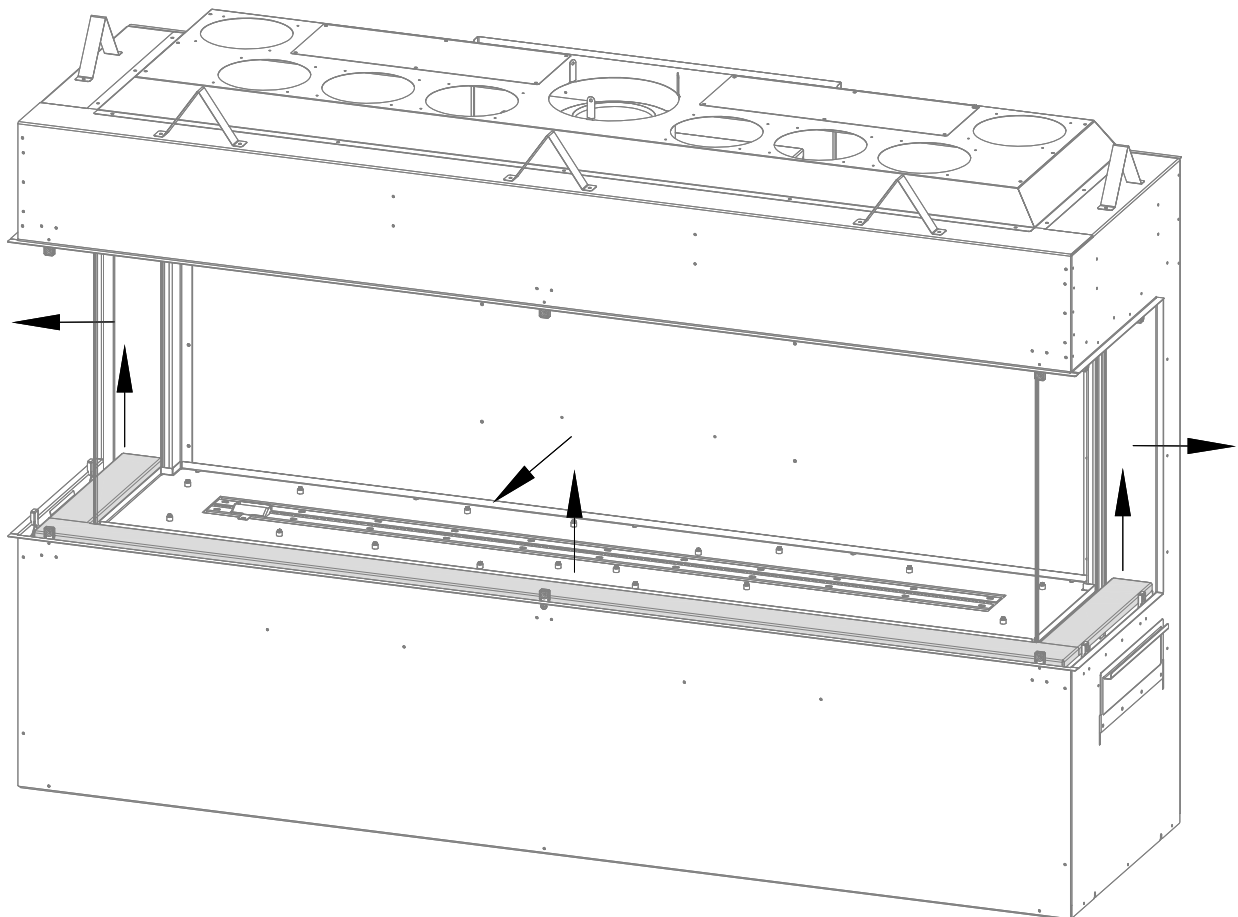

Figure 4.3 - Removing Perimeter Media Tray
1. After the front safety screen is removed locate the (2) sheet metal screws that secure each side media tray and the front media tray. See Figure 4.3. Ensure the media trays are pushed up against the firebox glass so there is a gap between the media tray and screen / outside edge of the fireplace.
1. Remove the perimeter media tray by lifting it up and out of the slot it is installed. See Figure 4.3.